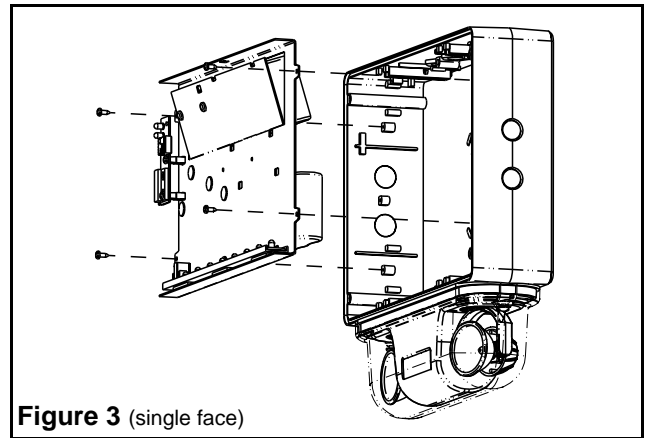

Figure 3 (single face)
- g. In order to access the knockouts of the frame, remove the 4 electronic module screw(s) holding the electronic module to the frame (see fig.3 & 4), disconnect the lamps from terminal block and remove the electronic module.
- c. Remove the 4 electronic module screw(s) holding the electronic module to the frame (see fig.3 & 4), disconnect the lamps from terminal block and remove the electronic module.